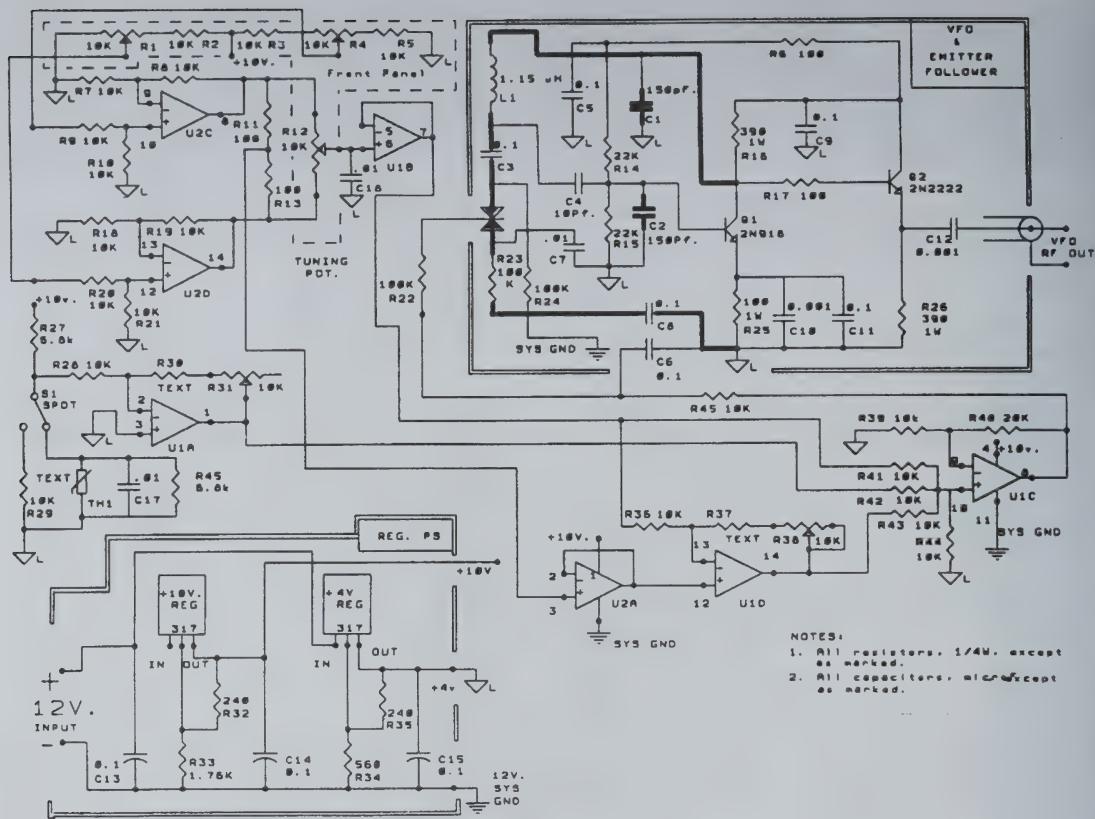

Figure 2 - VFO Schematic Diagram
This tech onfo part covers the Vackar VFO and the temp comp circuits shown in Figure 2 and are now discussed.
Note also that Gary found it necessary to decouple the base from the collector supply voltage to prevent an unwanted AF oscillation much like the ole term "motorboating". The decoupling in this rig consists of resistor R6 and capacitor, C5, shown at the top right of Figure 2, are required in order to prevent an unwanted modulating signal in the VFO oscillations.
The Varactor, D1: Diode D1 is shown in the heavy line path in Figure 2. It is a Motorola MV104 varactor (or replacement part, NTE617 or ECG617). The linearity of the MV104 extends over a much wider range than that which is required in this rig. Also, the linearity of a dual-diode varactor extends beyond that of single diode types. With good linearity in the MV104 and with a good, linear taper tuning pot, the readout on the tuning dial will also be linear. However, before continuing with the circuitry associated with MV104, it is beneficial to also discuss the thermistor, TH1 in the next two paragraphs.
Thermistor, TH1: In the circuit of Op Amp U1A, shown at the left center of Figure 2, temperature changes are sensed by thermistor, TH1. The resistance of TH1 is guaranteed to be within +/- 1% of 10K at 25 C. The value at 0°C is 27.28K ohms and at +50°C, it is 4.161K ohms. This part is available from Radio Shack, # 271-110 for \$2.
calculated the values of these resistors required for this linearity. They are shown in Figure 2 at the left center as R27 and R45.
Op Amps: The LM-324 Op amp IC was chosen, (both for U1A thru D and U2 A thru D, in Figure 2) because, (1) it is inexpensive, (2) it is one of the high gain types of op amps (typically 200K open loop gain), and (3) it can be used with one power supply source.
In this rig, an unusual method of supplying power to U1 and U2 is used. In the lower left corner of Figure 2, two voltage regulators are shown.